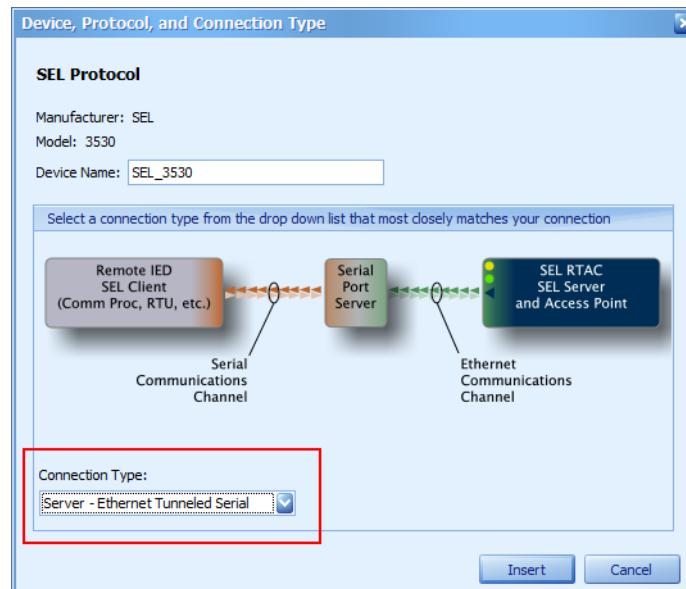

Figure 125 Connection Type for RTAC
Step 3. In the window that appears, select **Server - Ethernet Tunneled Serial** as the **Connection Type**, as shown in *Figure 125*. Select **Insert**.